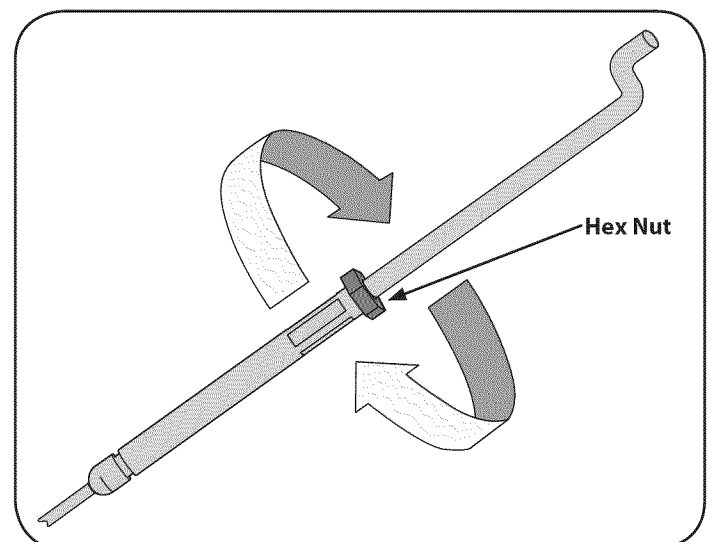

Figure 11
4. Retighten the lock nut against the cable collar. See Figure 11.